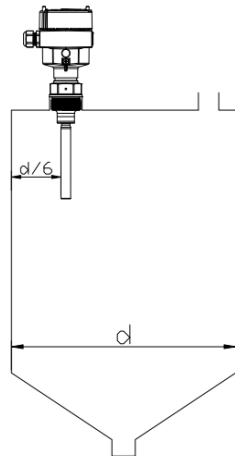

Fig.1
- For vertical installation, install the level switch at a distance of $d/6$ from the vessel's wall as shown in Fig.1.